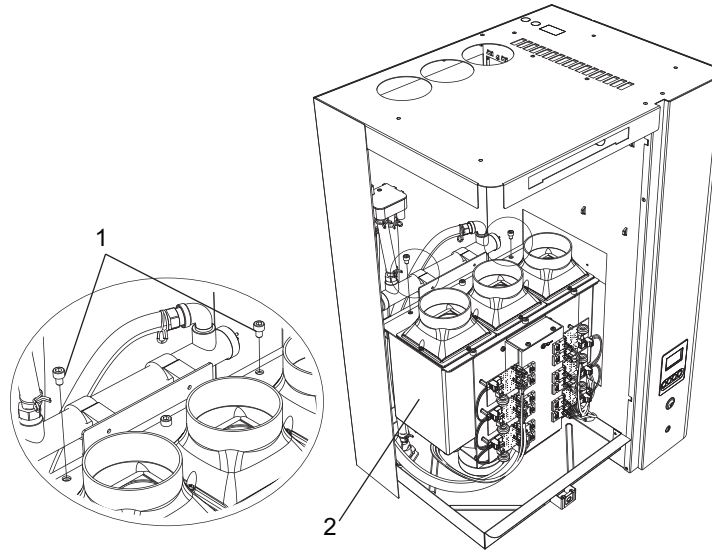

Figure 16 - Water Reservoir Mounting
Remove the water reservoir as follows. Refer to Figure 16 - on the facing page.
6. Unscrew fastening bolt on the top of the water reservoir. Refer to Figure 16 - on the facing page.
4. Insert and tighten the two fastening bolts on top of the reservoir to secure the reservoir in place. Refer to Figure 16 - below.